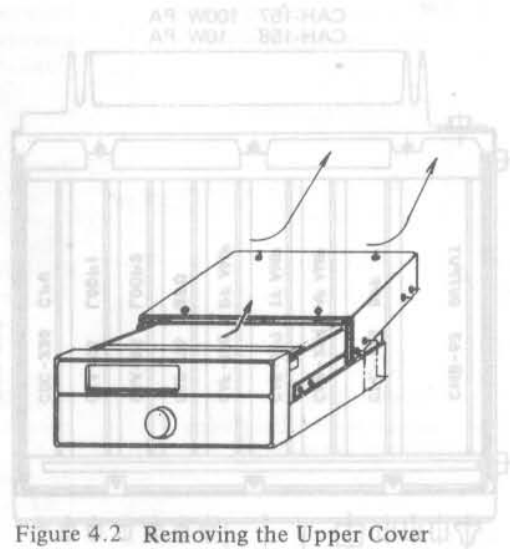

Figure 4.2 Removing the Upper Cover
- (4) Remove the lower cover in the same manner as shown in Figure 4.2.